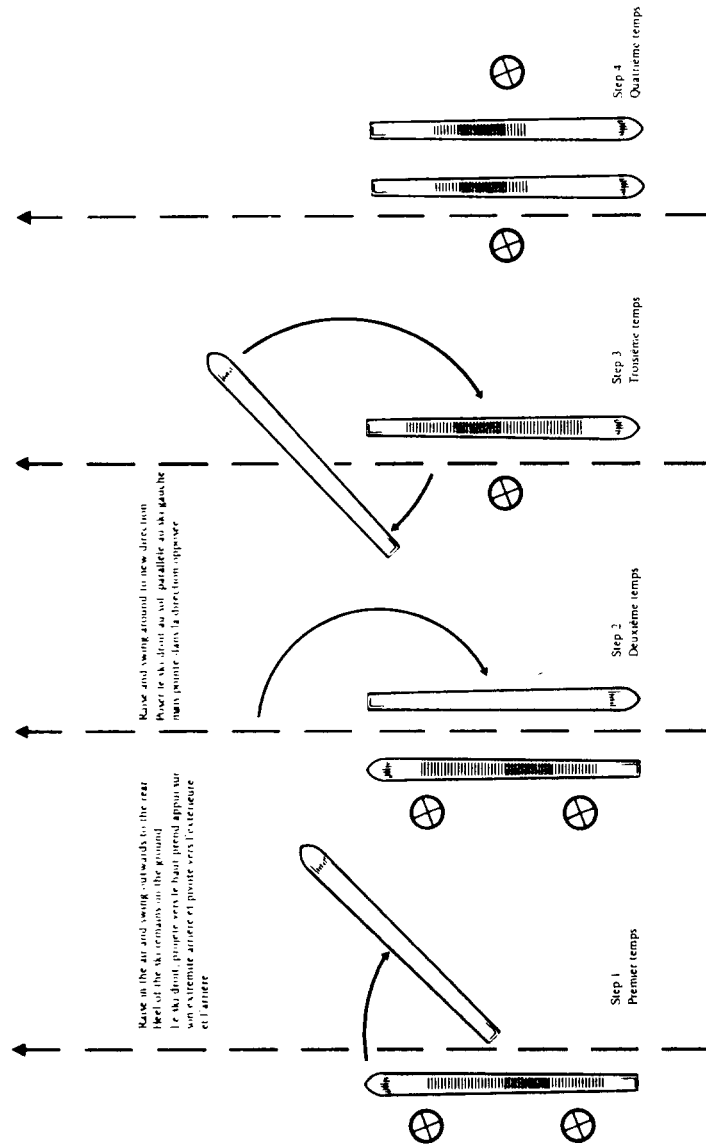

Figure 5-11 The Kick Turn
1. The kick turn is the quickest method of reversing direction while stationary; it can be used on flat ground and on steep slopes (see Figure 5-11).